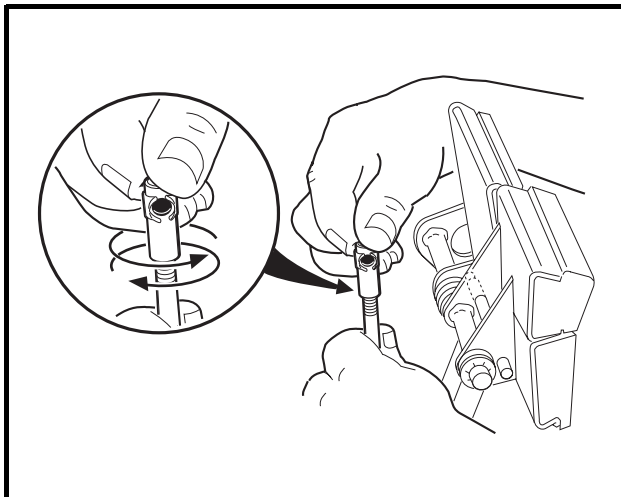

**Figure 5-25 Accelerator Pedal Height Measurement**
- 3.3. With the park brake unlocked, measure and note the distance from the top of the accelerator pedal to the floorboard, then lock the park brake (**Figure 5-25, Page 5-18**).